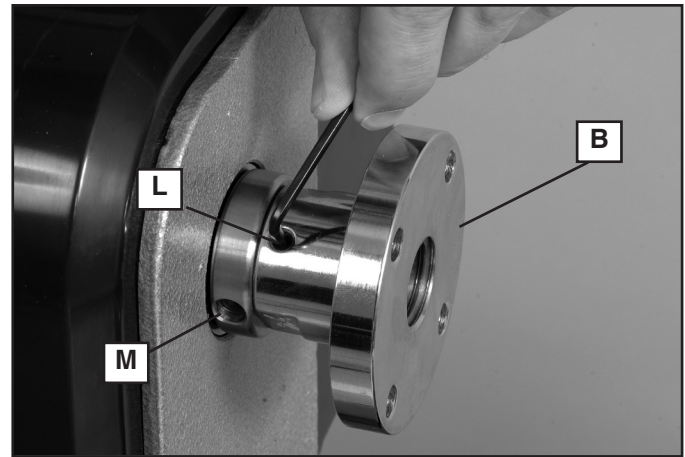
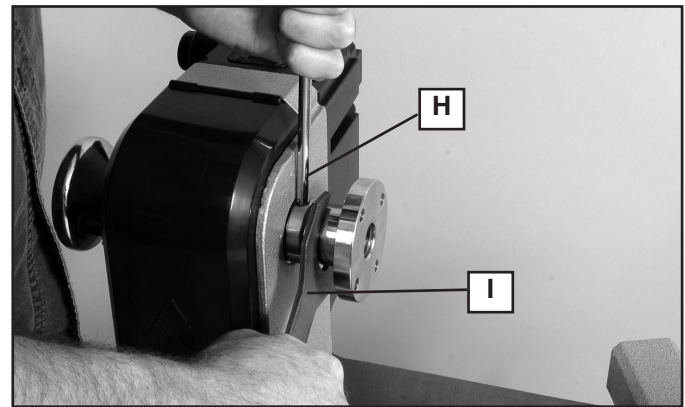
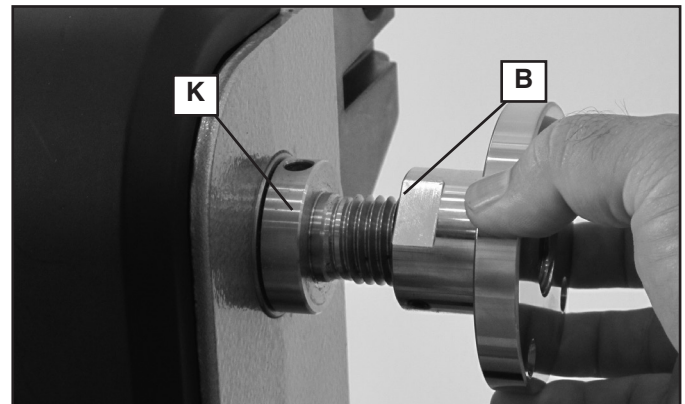

Fig. 2
Fig. 3
Fig. 4
- When using the included 3" (76 mm) faceplate (B) Fig. 2, do not mount pieces larger than 6" (152 mm) in diameter and up to 6" (152 mm) in length. For mounting larger pieces, be sure to use an appropriately sized faceplate.
**⚠ WARNING:** To reduce the risk of injury, when using the included 3" (76 mm) faceplate (B) Fig. 2, do not mount pieces larger than 6" (152 mm) in diameter and up to 6" (152 mm) in length. For mounting larger pieces, be sure to use an appropriately sized faceplate.
To remove the faceplate, use the included 3 mm hex wrench to unlock the set screws (L) at least two full turns. Place knockout bar (H) Fig. 3 in hole (M) Fig. 2 and place faceplate wrench (I) Fig. 3 on faceplate shoulder flats (as shown in Fig. 3) and turn wrench to loosen faceplate. Once loose, the faceplate (B) Fig. 2 can be unscrewed.
**⚠ WARNING:** FOR THE DELTA® MODEL 46-460 MIDILATHE ONLY: To reduce the risk of injury, if turning in reverse, be sure to tighten the set screws (L) Fig. 2 securely when replacing the faceplate.
To re-attach faceplate (B) Fig. 4, screw it back on to the spindle nose (K) and tighten securely using the knockout bar and wrench as shown in figure 3. Replace set screws (L) Fig. 2 if removed. Tighten set screws securely.